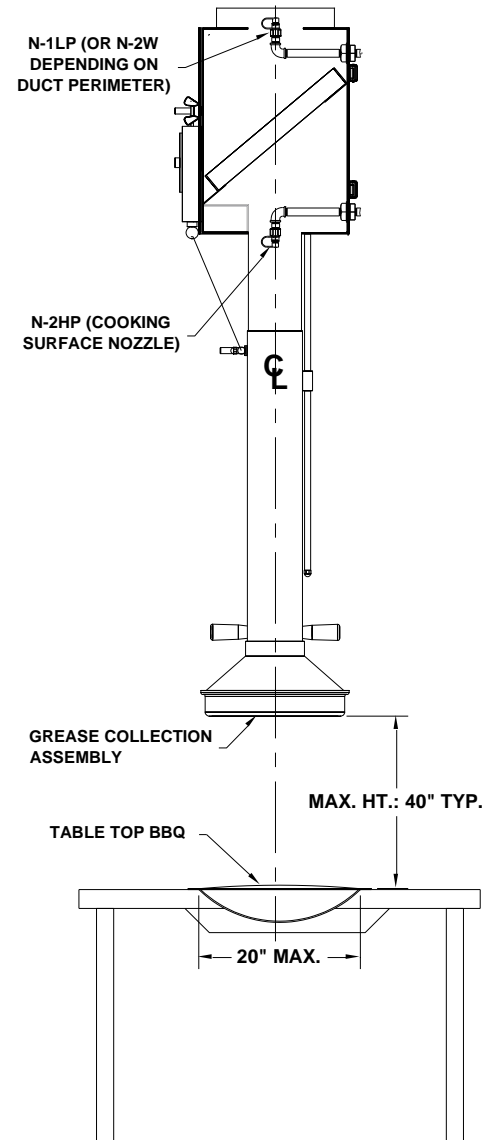

Figure 1.
Underwriters' Laboratories, Inc. (UL) does not currently have a testing procedure for this specific type of appliance; however, Buckeye Fire Equipment has tested this appliance to the requirements of UL-300. Based on our testing, proper protection for the cooking surface and retractable duct section of the JC Enterprises Hoodini 2 Dynamic Korean BBQ Grill and Hood System is accomplished with the use of one (1) **Model N-2HP** nozzle. The nozzle must be located in the top section of the hood system and aimed down the center of the retractable duct. The maximum cooking area a single nozzle can protect is 20" wide by 20" deep and the maximum height of the hood opening above the cooking surface is 40". See **Figure 1**. Any ductwork upstream of the cooking surface nozzle (N-2HP as noted above) must be protected as a duct in accordance with Buckeye Kitchen Mister Technical Manual, Model BFR-TM (page 3-1).